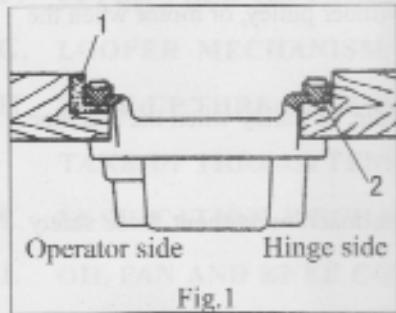

Fig.1
3. INSTALLING THE MACHINE (Fig.1)